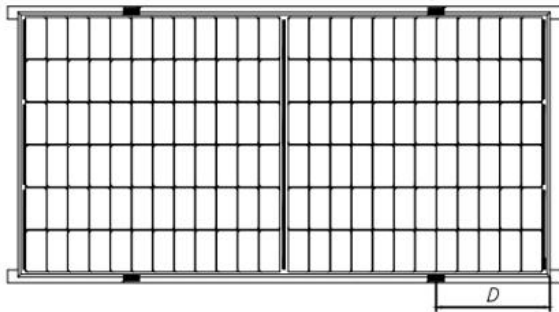

Fig.3 Rails overlapping the long-side frame
When PV modules are installed, each PV module must be fixed with at least 4 presses, as shown in Figures 3、4、5、6.
- ⑩ For the mounting shown in Figure 3, the overlap between the C surface of the module and the rail should be $\geq 25\text{mm}$. Astronergy's limited warranty will be void if improper clamps or improper installation is used.